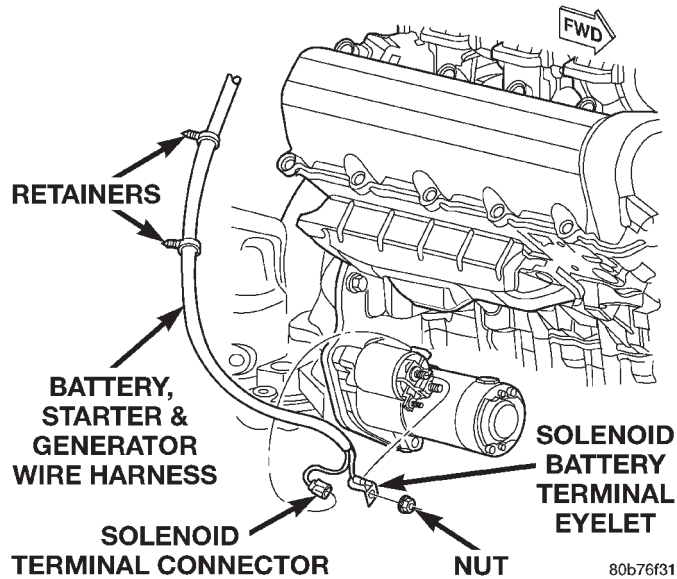

Fig. 13 Starter Wire Harness Remove/Install - 4.7L Engine
(4) While supporting the starter motor with one hand, use the other hand to remove the upper (rear facing) mounting screw securing the starter motor to the automatic transmission torque converter housing.
(5) Lower the starter motor from the front of the automatic transmission torque converter housing far enough to access and remove the nut that secures the battery cable eyelet to the solenoid battery terminal (Fig. 12) or (Fig. 13). Always support the starter motor during this process, do not let the starter motor hang from the wire harness.